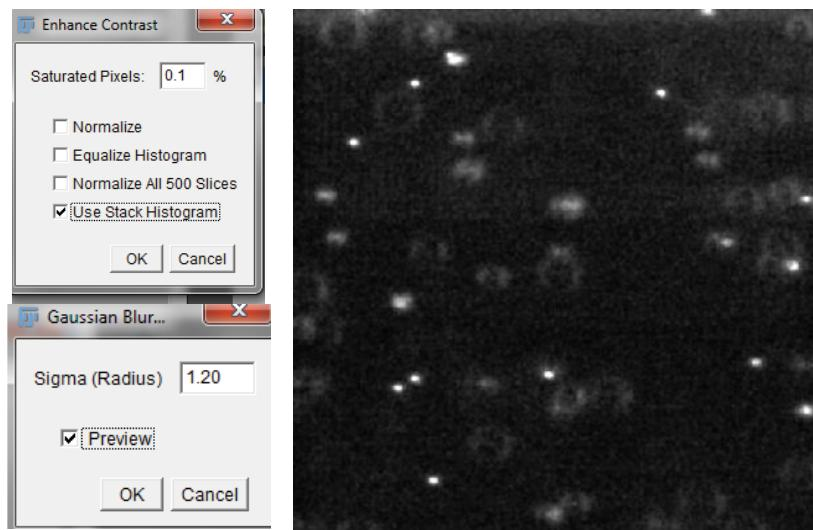

Figure 11. Parameters for better movie quality.
- 2) Next you need to improve contrast and adapt your movie so that it can be treated with ParticleTracker plugin. To do so use the **Image\Type\ 8 bit** option from File menu. Next you need to increase contrast you will do it by using **Process\Enhance Contrast** option from File menu. It is safe to select 0.1% saturated pixels under Use Stack Histogram see Figure 11. To filter out noise use **Process\Filter\Gaussian blur** option from File menu. Again safe sigma value to use is 1.2. Before applying this filtering you can preview your movie.